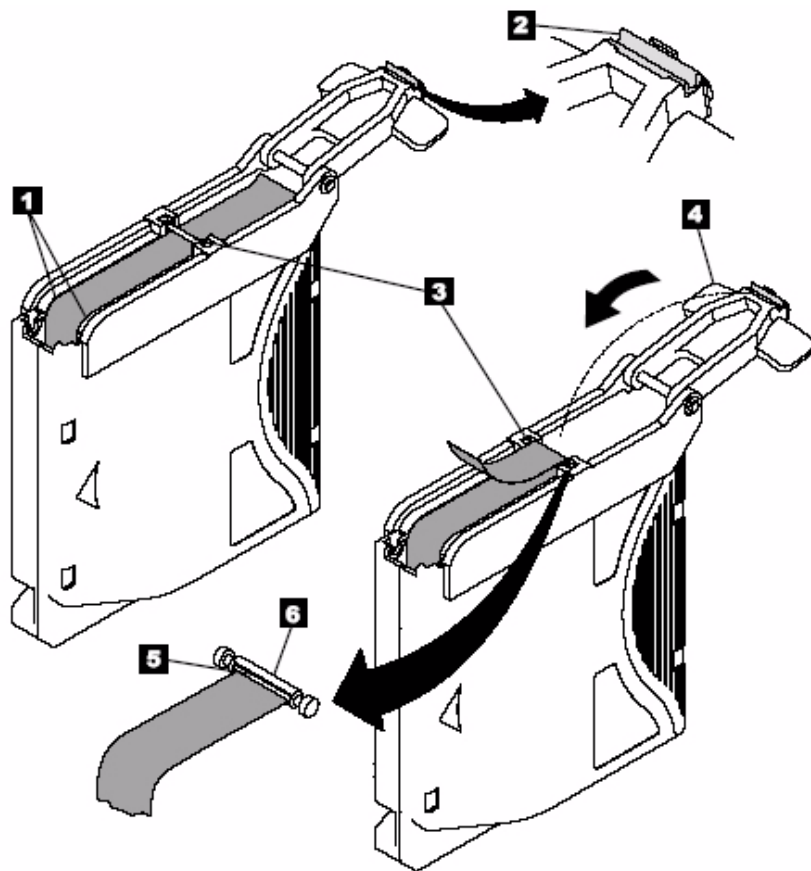

Figure 4-10 Attaching the leader pin to the tape
7. Position the tape in the alignment groove of the leader pin attach tool (see ❶ in Figure 4-10).
8. Place a new C-clip into the retention groove ❷ (Figure 4-10) on the leader pin attachment tool and make sure that the clip's open side faces up.
9. Place the leader pin (from step 6 on page 32) into the cavity ❸ (Figure 4-10) of the leader pin attach tool.
10. Fold the tape over the leader pin and hold it with your fingers (see Figure 4-10).